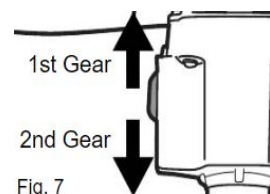

Fig. 7
1. To change to 2nd gear for faster speeds, push the gear selecting switch down (Fig.7)
2. To change to 1st gear for slower speeds, push the gear selecting switch up (Fig.7)